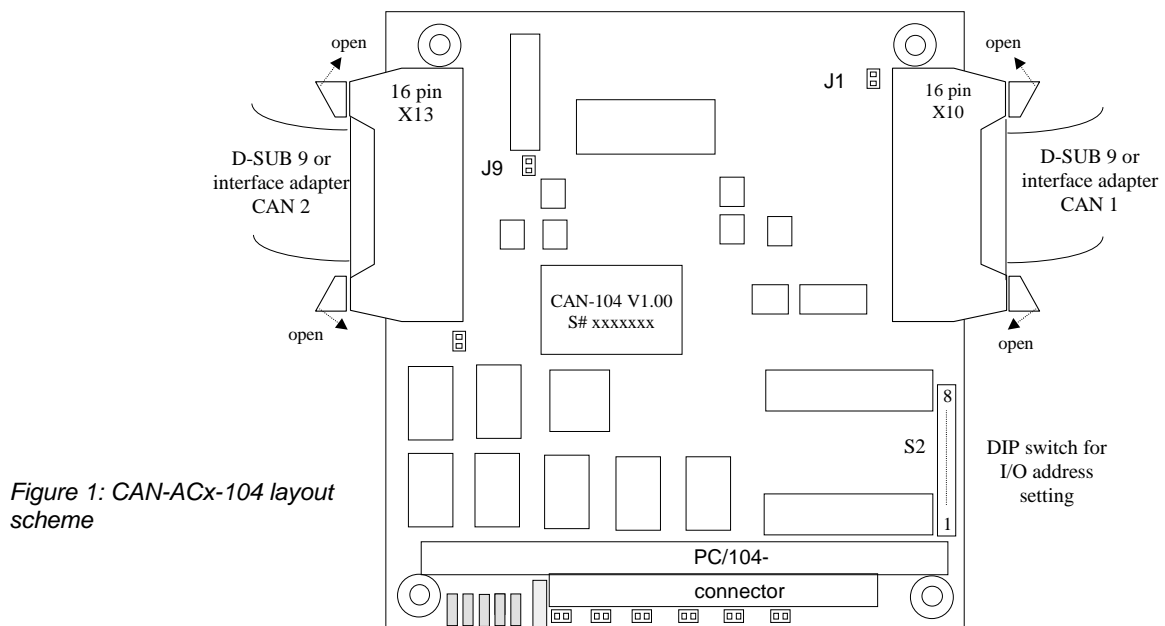

Figure 1: CAN-ACx-104 layout scheme
- Configure the 4 byte I/O address range of the CAN-ACx-104 (see 8 DIP switches “S2” in Figure 1). It is adjustable in the address range between 0 and 3FFhex. Table 1 shows possible settings and the related I/O addresses. For other I/O areas you can calculate the address by adding the values of every switch which is ‘OFF’ (see Table 2).
- Configure the bus termination: The CAN High Speed (ISO 11898-2) bus should be terminated with 124 Ω between CAN_H and CAN_L at each end of the network. This termination resistance is usually realized externally at the network cable. Nevertheless, the CAN-ACx-104 provides onboard termination resistances which can be optionally activated by jumpers (see Figure 1):
The D-Sub 9 connectors are replaceably plugged into the PC/104 interface by a 16 pin ribbon cable connector (see Figure 1). They can be individually fixed at the housing of the PC as required by the customers system. The pinning of the D-Sub 9 connectors is defined according to the CiA recommendation for the CAN High Speed Bus The shield is connected to earth via the PC housing.